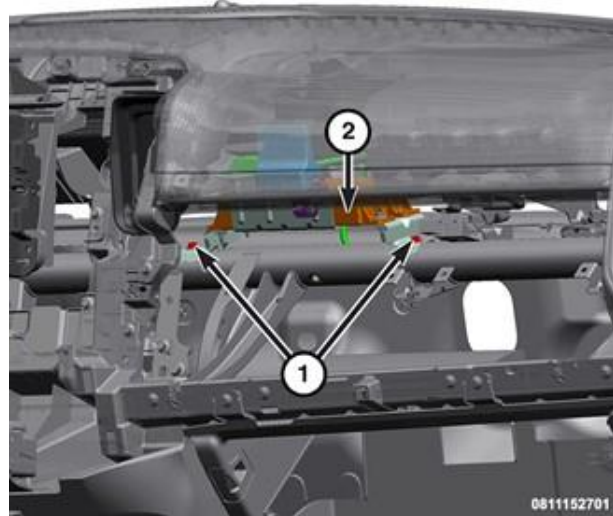

Figure 17 – Telematics Module
25. Remove the two screws (1) from the telematics module bracket (Figure 17).
36. Position the telematics module (2) to the IP reinforcement bar, then install the two screws (1) securing the telematics module bracket and tighten securely (Figure 17).